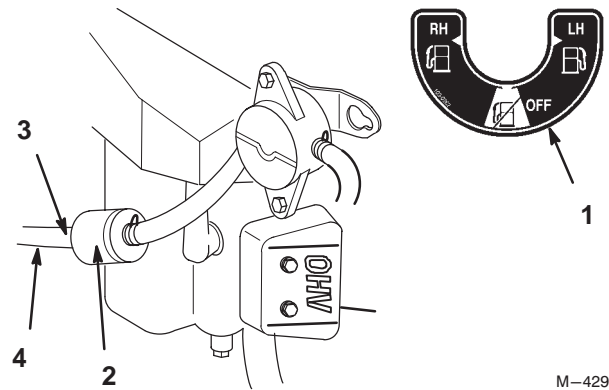

Figure 43
5. Install a new filter and move the hose clamps close to the filter (Fig. 43).
- Close fuel shut-off valve (Fig. 43).
- Loosen the hose clamp at the fuel filter and slide it up the fuel line away from the fuel filter (Fig. 43).
- Pull the fuel line off fuel filter (Fig. 43).
- Open fuel shut-off valve for left and right tanks. Allow gasoline to drain into a gas can or drain pan. (Fig. 43).
- Install the fuel line onto the fuel filter. Slide the hose clamp close to the fuel filter to secure the fuel line (Fig. 43).